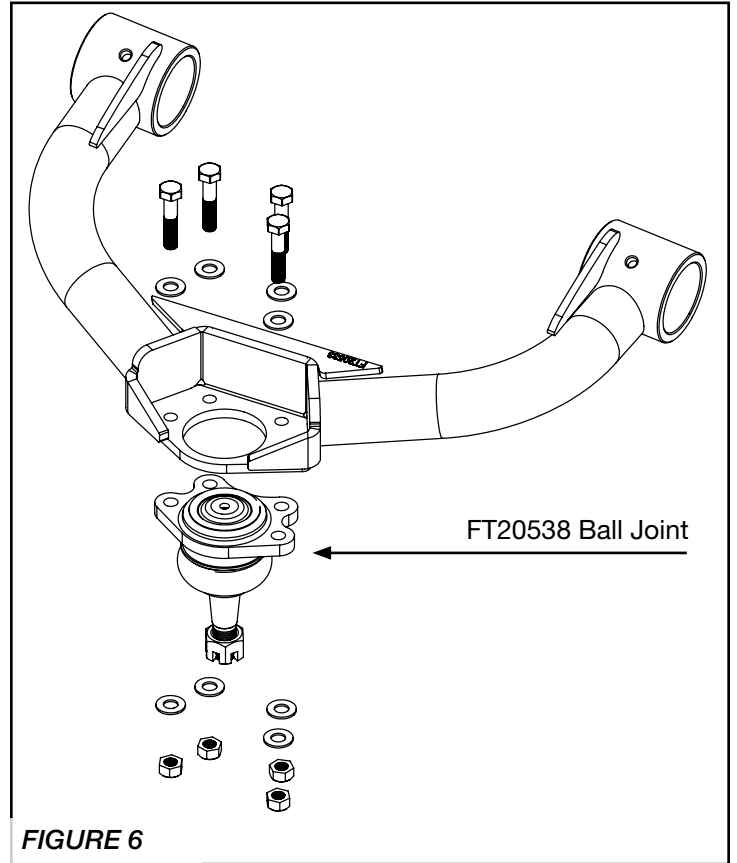

FIGURE 6
14. Install all these components in the control arm barrels. Locate the ball joint FT20538 and install onto the control arm ball joint plate. Use the supplied 5/16" bolts, nuts and washers. Lube ball joint through zerk fittings. Torque to 29 ft-lbs. **SEE FIGURE 6**